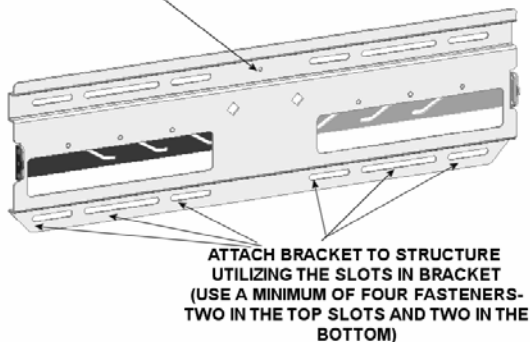
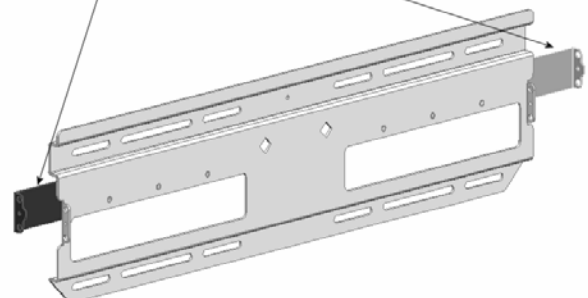

Figure 9. Wall Plate Installation
Figure 10. Slide Latches Outward
2. Using a small nail or screw (not provided) in the center hole, lightly hold wall plate at the mounting location (see Figure 9).
3. Level the wall plate (10) and drill pilot holes for anchoring the wall plate.
5. Slide the latches to the outside (see Figure 10).